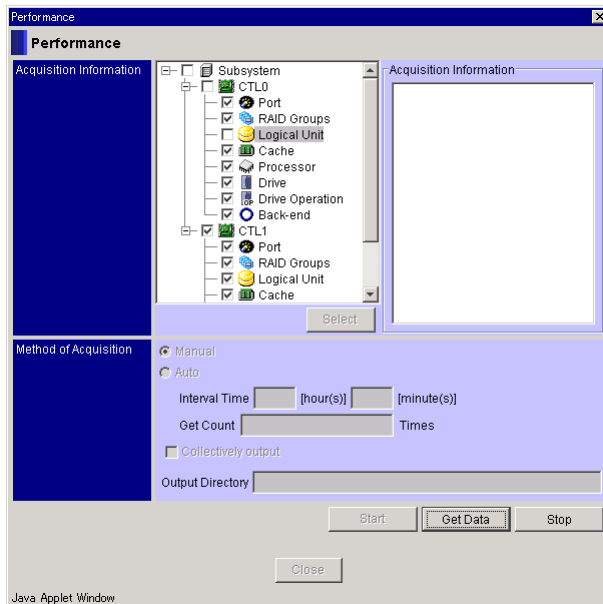

Figure 12.5 Performance Window
10. Click **Get Data**. See Figure 12.5.